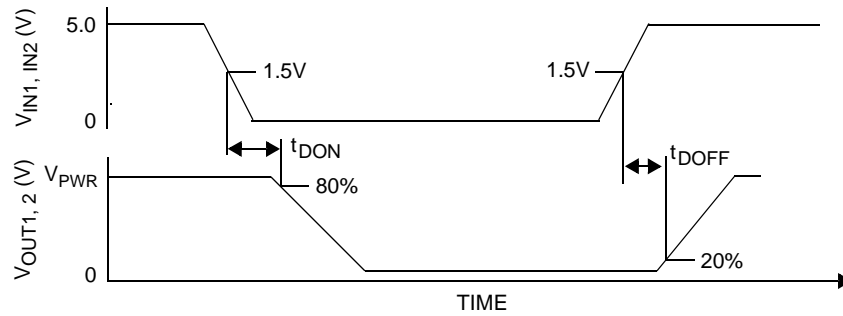

Figure 4. Output Delay Time
23. \* Output Delay is the time duration from 1.5V on the IN1 or IN2 input signal to the 20% or 80% point (dependent on the transition direction) of the OUT1 or OUT2 signal. If the output is transitioning HIGH-to-LOW, the delay is from 1.5V on the input signal to the 80% point of the output response signal. If the output is transitioning LOW-to-HIGH, the delay is from 1.5V on the input signal to the 20% point of the output response signal. See Figure 4, page 9.